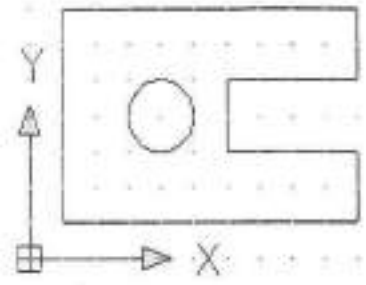
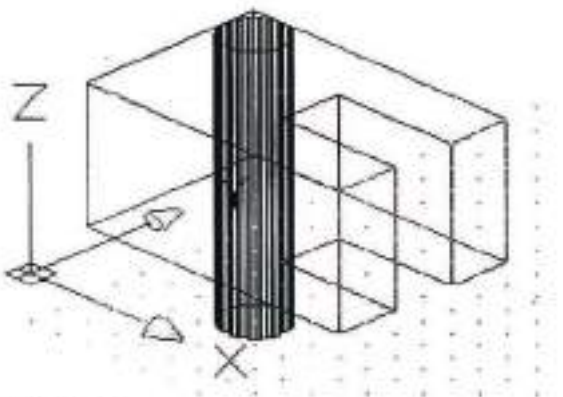

Figure 4
Figure 5
8. Add a circle as shown on Figure 4 and view from SE Isometric. (Figure 5)